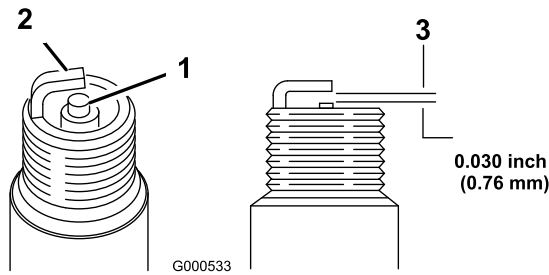

Figure 29
- Disconnect the wire from the spark plug (Figure 29).
- Set the gap on the plug to 0.030 inch (0.76 mm) (Figure 29).